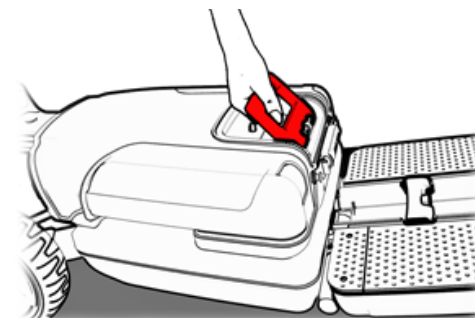

Figure 40
4. Push the back of the chair forward until it clicks (see Figure 40).